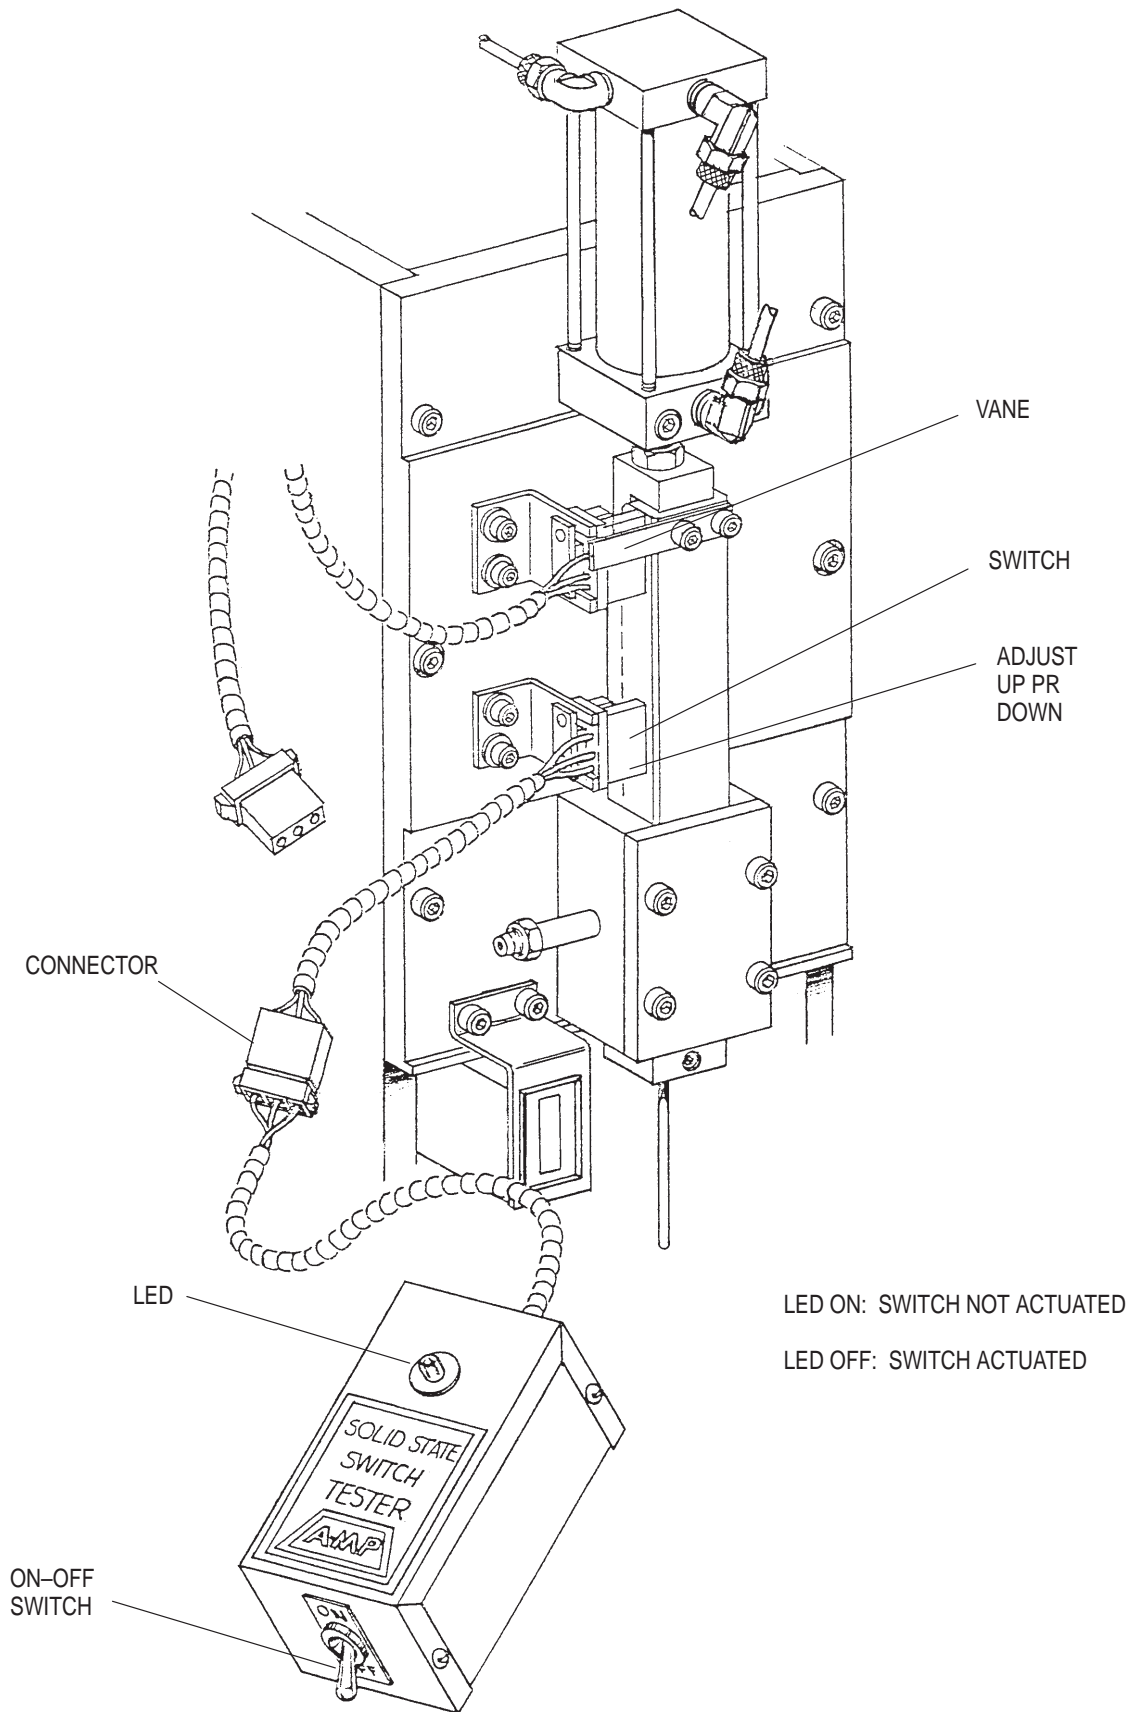

Figure 6-4. Switch Adjustment
6.7. Switch Adjustment (Figure 6-4)